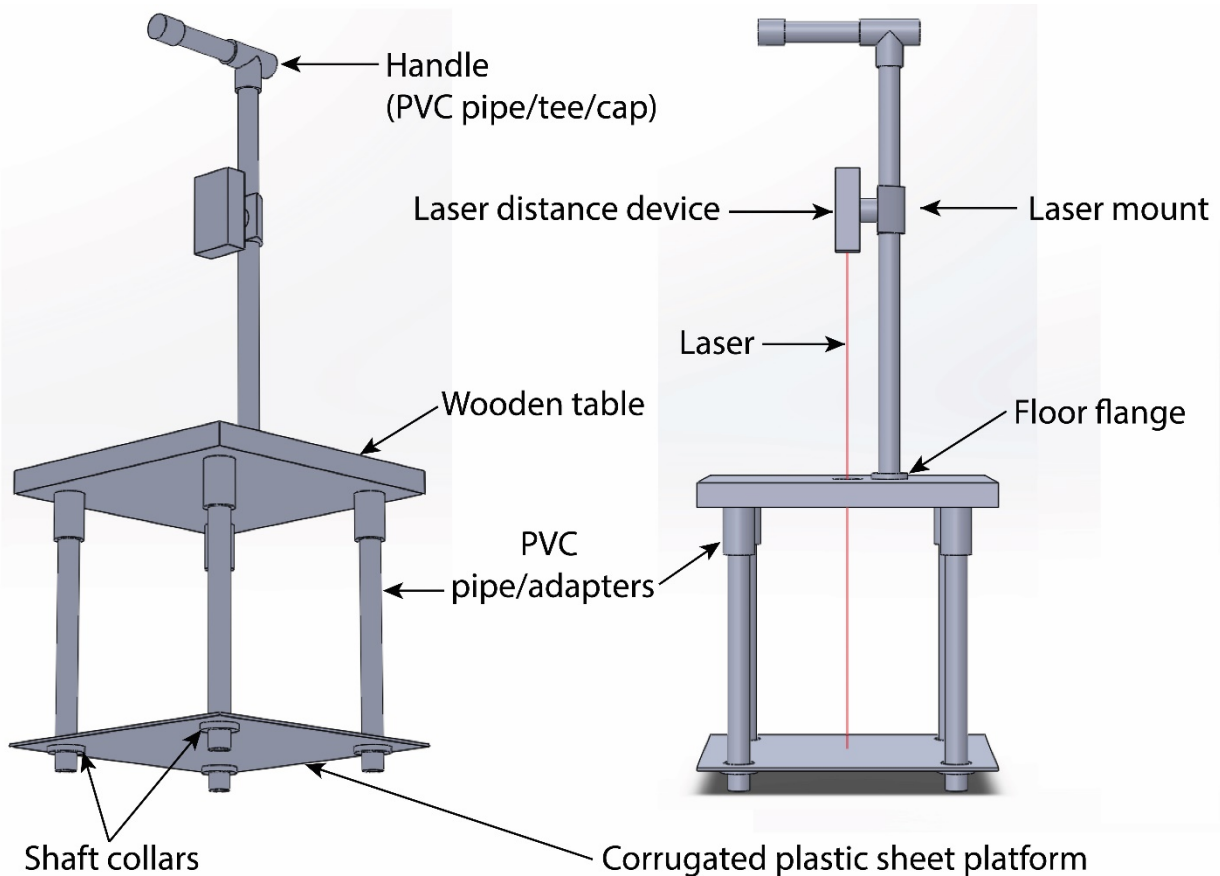

Figure 1. A table with a floating platform, carrying arm (handle), and a mounted laser distance measurement instrument developed to measure turf sward height.
Turf Height Tester (Fig. 1) can be used without the use of Bluetooth functionality and additional free Bosch MeasureOn smartphone app (v 1.3.6 Android, Robert Bosch Tool Corporation) by recording values with pen and paper from the device readout. However, utilizing the Bluetooth functionality in combination with the Bosch MeasureOn smartphone app to record and store values will expedite data collection events.
Step 3. Firmly holding the Turf Height Tester handle and applying slight pressure on handle to make sure the meter does not move, record measurement with smart phone app in your opposite hand (see above instructions) or press red button on laser device (if not using smartphone app) (Fig. 1 and 4).